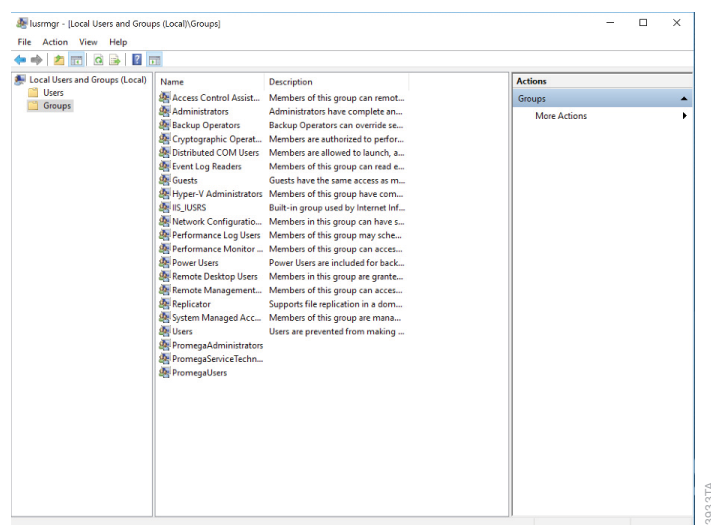

Figure 66. Groups folder. Access the `PromegaAdministrators` and `PromegaUsers` groups from the Groups folder on the 'Local Users and Groups (Local)' screen.
4. Double-click the **Groups** folder in the center part of the window to open the folder (Figure 66).